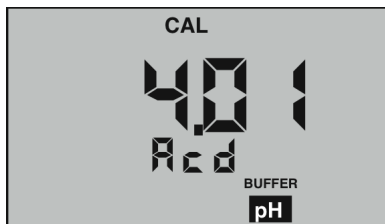

Figure 4
2. At this point the “**CAL**”, “**BUFFER**” and “**Acd**” or “**bAS**” annunciators will be displayed (see Figures 4 and 5, pg. 34).